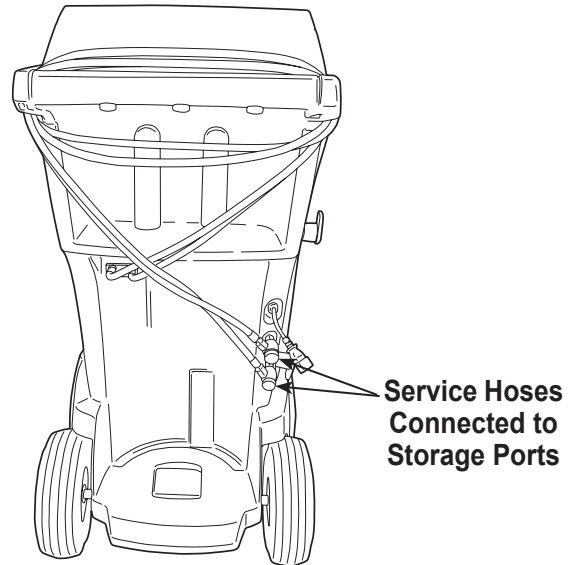

Figure 2
2. When prompted, connect the service hoses from the machine to their storage ports as shown in Figure 2. Select ►► to continue.